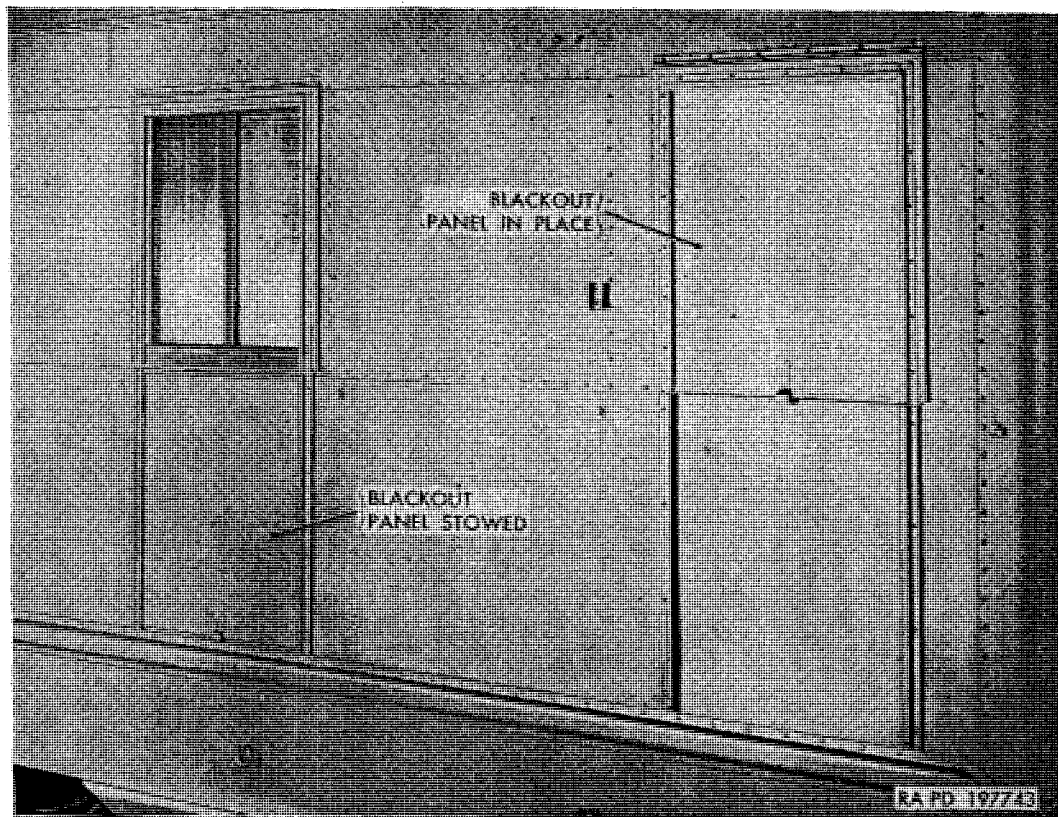

Figure 74. Side window blackout panels in use.
- (1) *Positioning blackout panels* (fig. 74). Blackout panels must be manually positioned over side, rear, and front windows from outside of vehicle. The side window panels and entrance door window panels must be pushed up to cover window or pulled down to uncover. Front window blackout panel slides sideways.